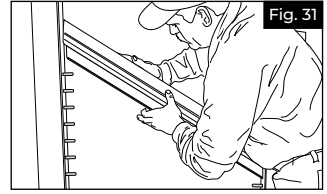
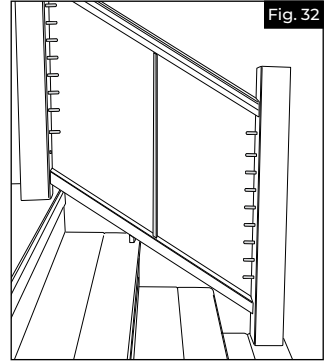

Fig. 31
Fig. 32
- a. Snap the top rail (component A) onto the top beam (component D) by applying downward pressure. Work from the bottom of the stair to the top end of the rail until the full length of the cover locks into place (Fig. 31 & Fig. 32).
- b. At this time, install the remaining fitting in the pre-drilled hole at the bottom of your top stair post (circled, figure 32.)